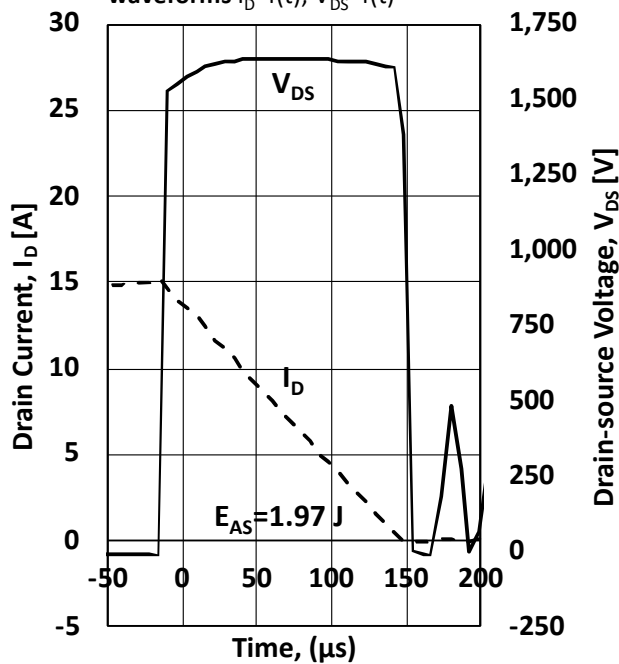

Figure 12. Gate charge
2) Q_{gs} and Q_{gd} values were calculated using the two-curve extraction method shown in Fig. 12.